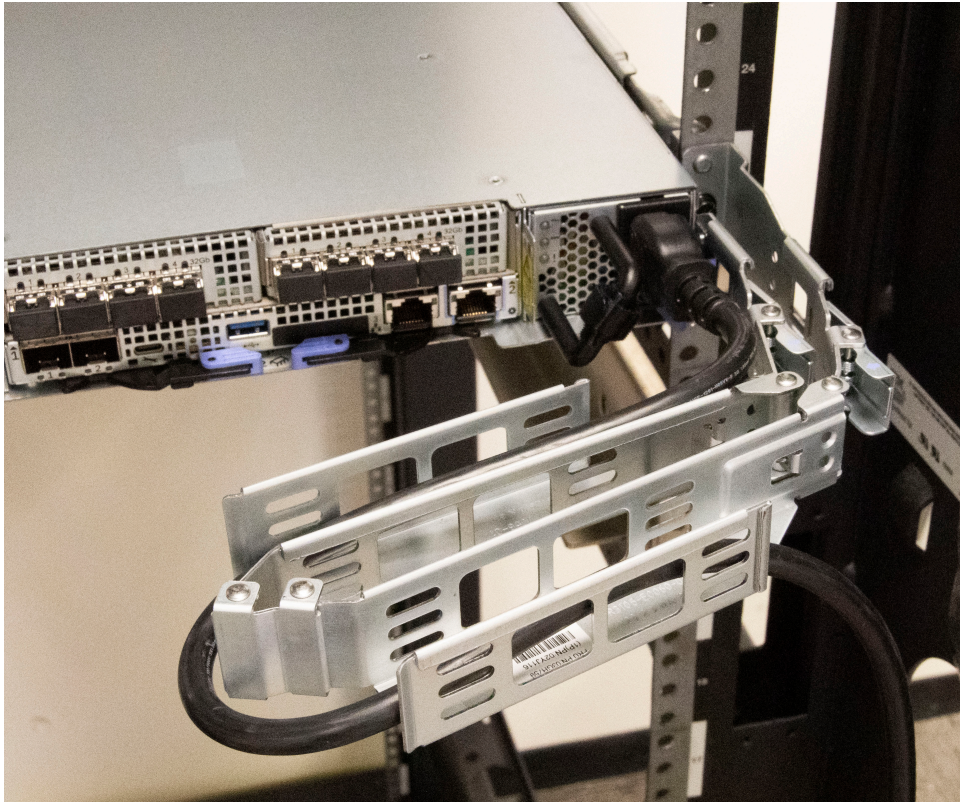

Figure 60. CMA attachment to the inner and outer mounting brackets
2. To disconnect the CMA arms from the brackets on the enclosure and rack, press the spring-loaded clips at the ends of the four CMA arms, as shown in Figure 60 on page 114.
4. Connect the two left CMA arms to the inner and outer brackets at the left corner of the enclosure, as shown in Figure 60 on page 114.